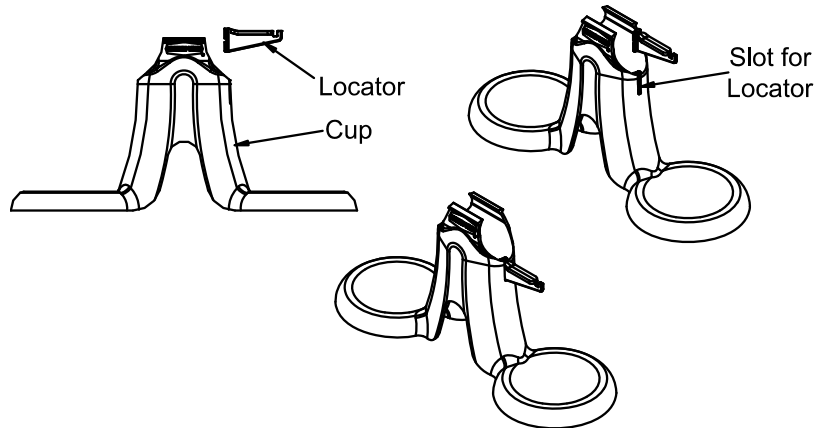

Figure 20. Advanti-Flow Cup Installation
1. Install the locator to the cup as shown, (See Figure 20).